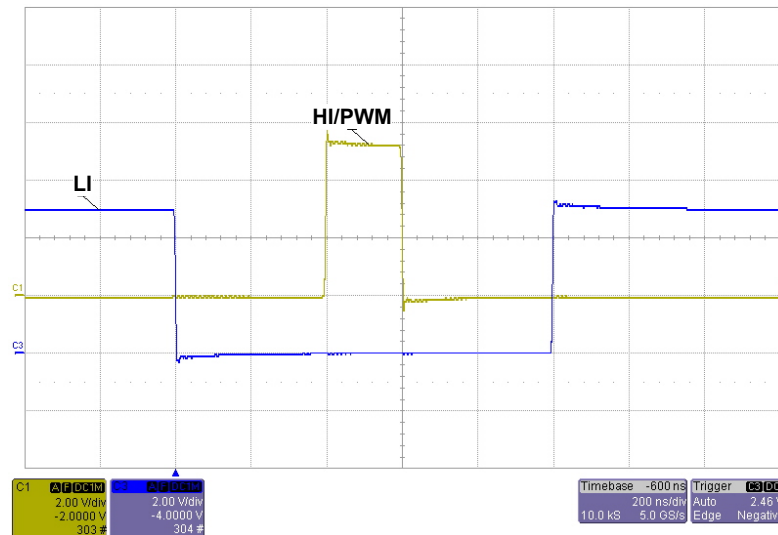

Figure 7. HI/PWM and LI Signals
- (9) Slowly rotate the potentiometer, R_1 , to the right (CW) until the waveforms shown in Figure 7 appear.